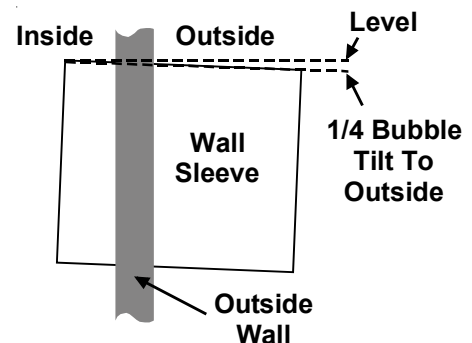

Figure 5
- A slight downward pitch from the indoor side to the outdoor side as shown in Figure 5.